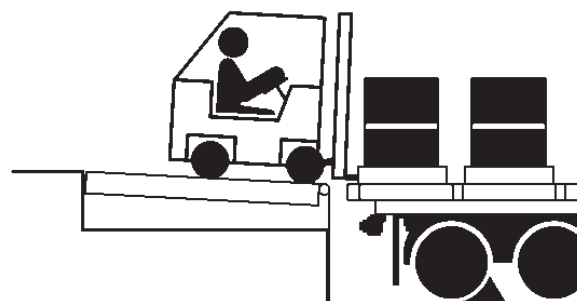

Figure 21
9. Proceed with loading or unloading (see Figure 21).